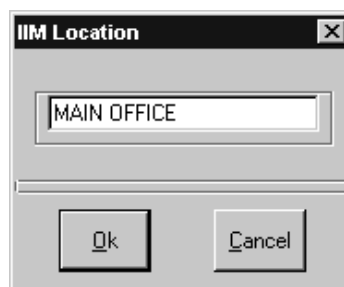

Figure 4-2. IIM Location Window
3. Select **Setup>Owner Location** from the menu bar. The IIM Location window opens, as shown in Figure 4-2.